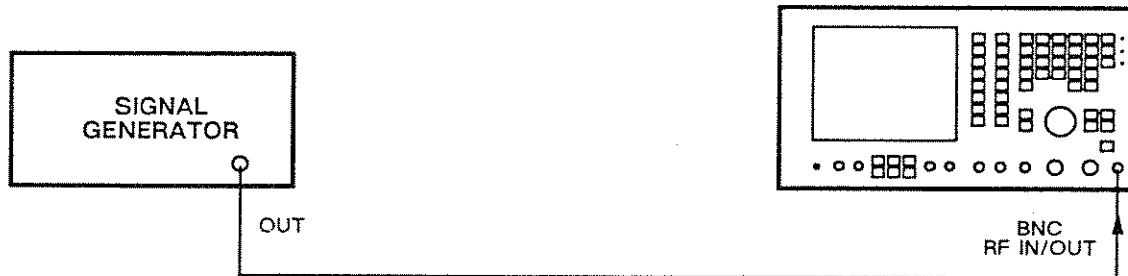

Fig. 6-30 Test equipment connections for sensitive receiver level
- (1) Connect the signal generator RF output to the RF IN/OUT BNC socket. See Fig. 6-30.